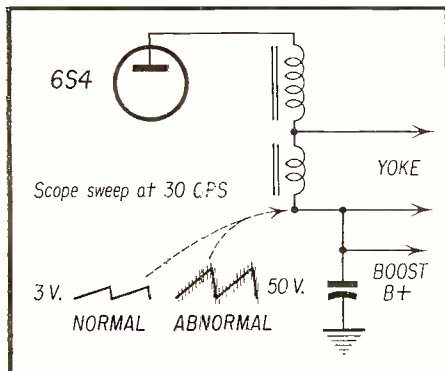

Fig. 8—An open filter in this case caused horizontal bending.
▶ (Left) a low capacity and inductive filter gave this wave form at the plate return of the vertical output transformer. (Right) Normal wave form, See Figs. 8, 9.
Figure 8 is a partial schematic of the circuit involved. The scope revealed an open filter at the vertical output transformer return. The high ripple at this point was coupled into the *agc* voltage line which was dressed near the filter terminals. In this case the open filter which is in the vertical circuit had no adverse effect on vertical deflection. In contrast, note conditions in the following cases of vertical deflection troubles.